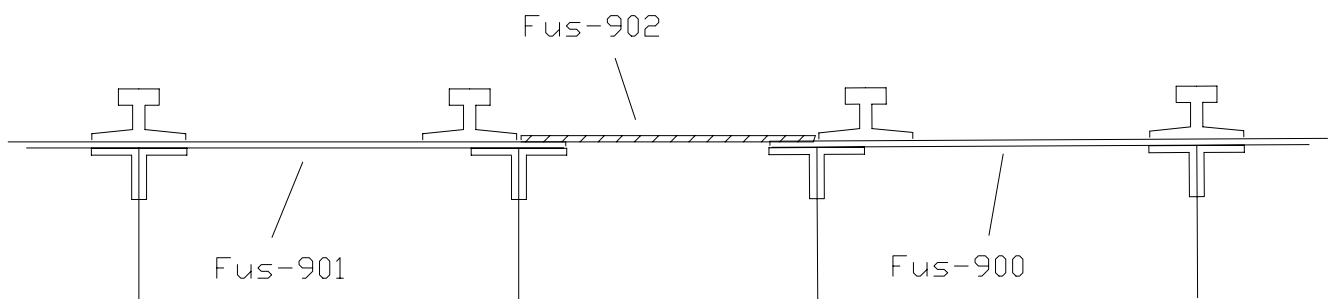

FIGURE 14
- 25) Lay the two Floor Panels with the Seat Rails in their proper locations. Figure 14. The FUS-902 Center Floor